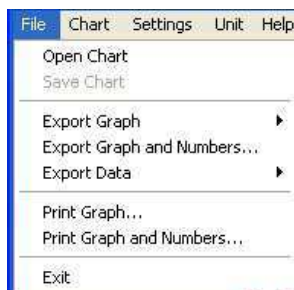

Figure 7-13
**File Menu** – as shown in Figure 7-13